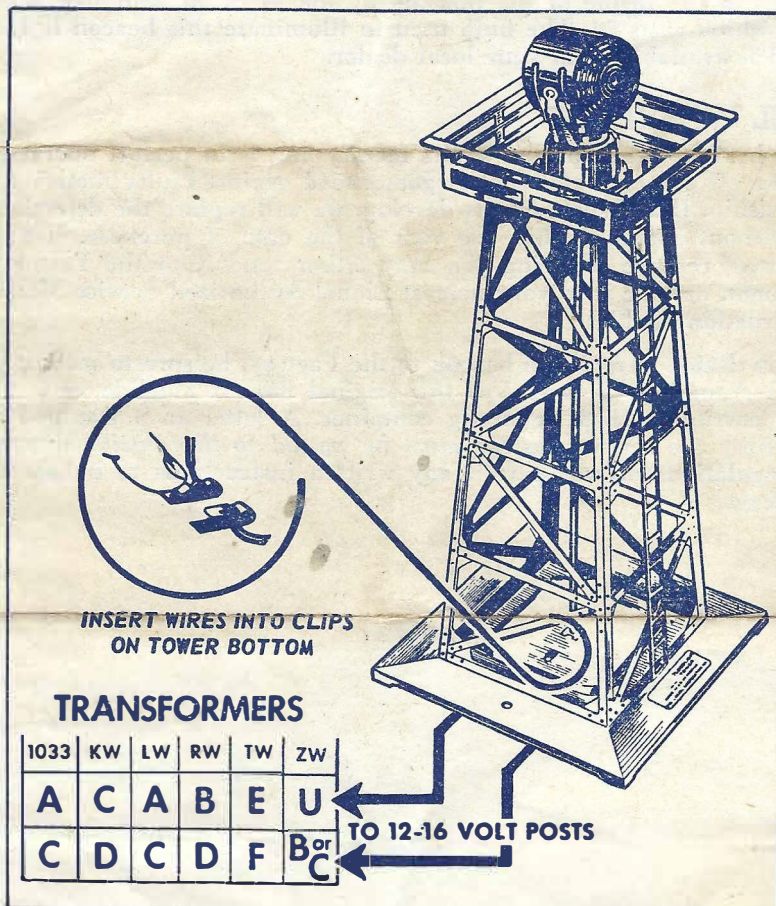

Figure 1—Installation of No. 494 Rotary Beacon
2. Insert one end of a wire into a spring clip on the bottom of the tower (See bottom inset in Figure 1). Connect the other end of this wire to one of a pair of transformer binding posts giving 12-16 volts.